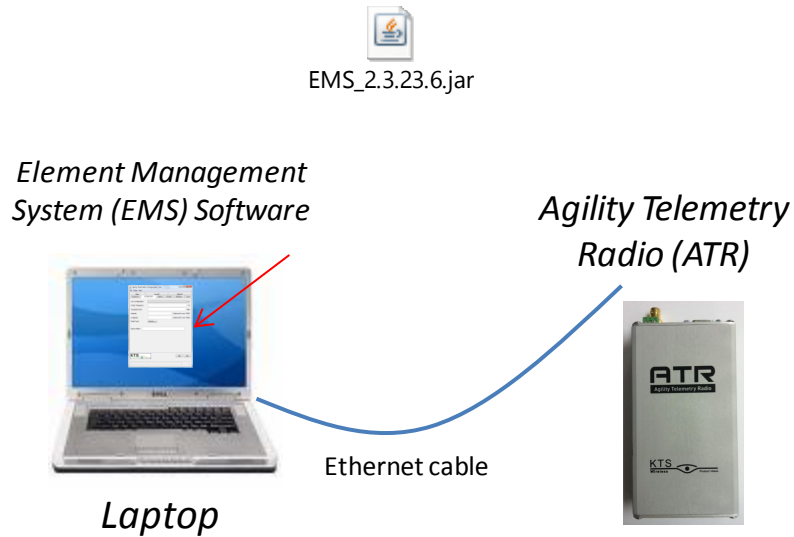

Figure 5: EMS to ATR Connection
5. Connect a laptop to the ATR as shown in the Figure 5. Double-click on the icon below to start the EMS software.